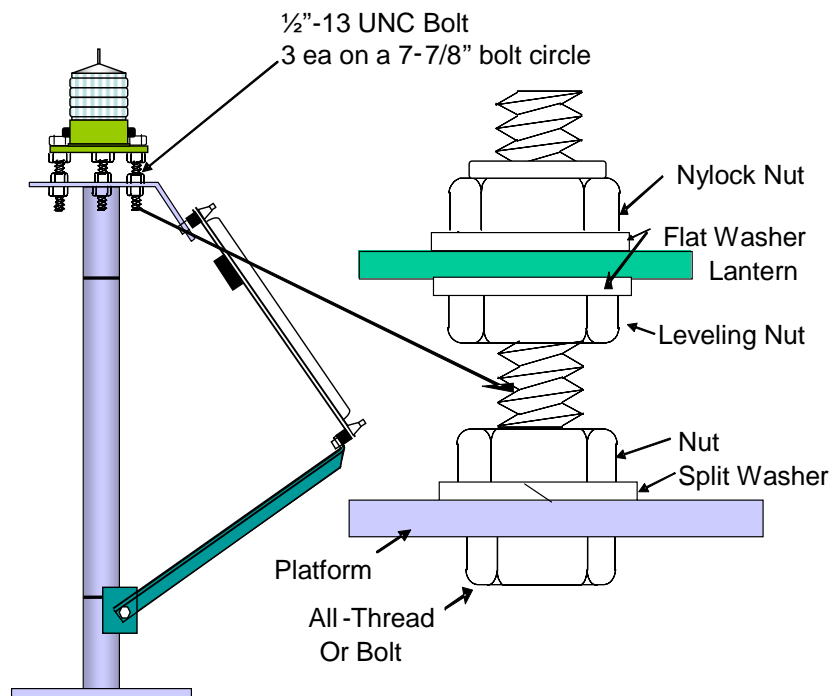

Figure 3-24. Installation – Structure
- d. On structures, secure three 1/2" stainless steel bolts (or all-thread) to the structure's mounting plate as shown in Figure 3-24. Install three jam nuts and flat washers on the bolts so that about 1" of thread is exposed. Place the lantern on top of the leveling nuts, and then install the flat washer and nylock nuts at the very upper end of the thread. Do not tighten these uppermost nuts – they are positioned at this time to ensure that the lantern doesn't fall off. Level the lantern on structures by adjusting the leveling nuts (use a torpedo level on the top of the lens or base plate of the lantern, whichever is flat) - use the "T" method. When the lantern is level, tighten the nylock nuts.